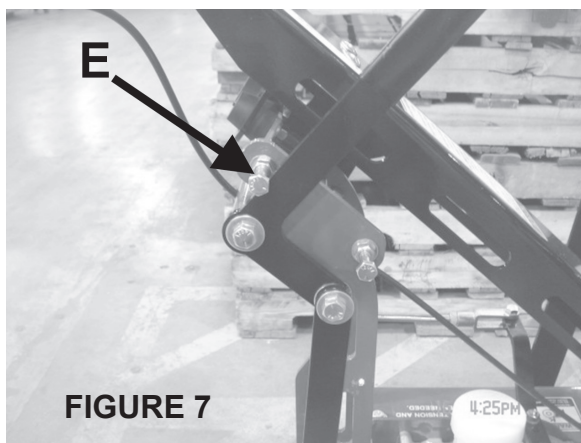

FIGURE 7
3. Adjust stop bolt E to the lever with idle 1/8" to 1/4" from back plate. **Figure 7**